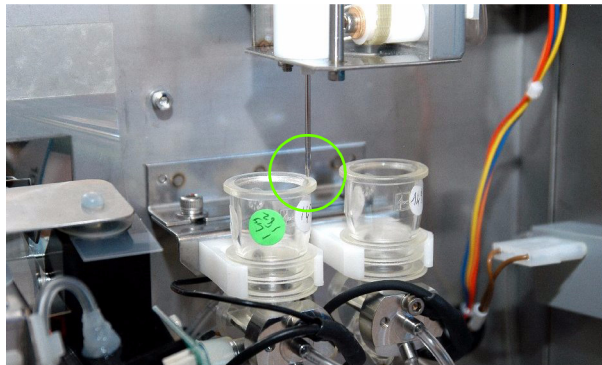

Fig.6: Needle on WBC chamber
- ◆ The carriage moves over WBC chamber. Manually move the needle down until it touch the edge of the WBC chamber (See “Fig.6: Needle on WBC chamber, page 4”).